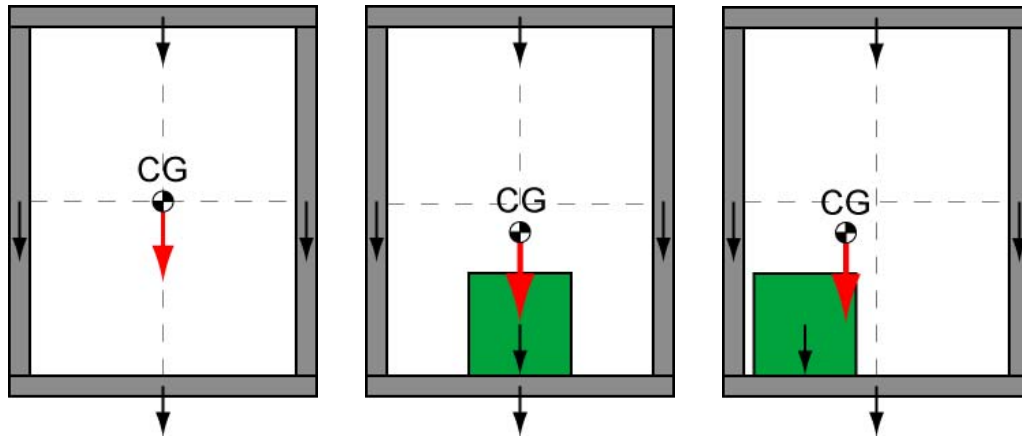

**Figure 6: Trim Post with Stainless Steel Washer Weights**
- It is a good idea to have a bolt (trim post) for washers at each corner of the vehicle for easy last minute trimming. Trimming is distributing the load on a vehicle so that it sits well in the water. See Figure 6 below.